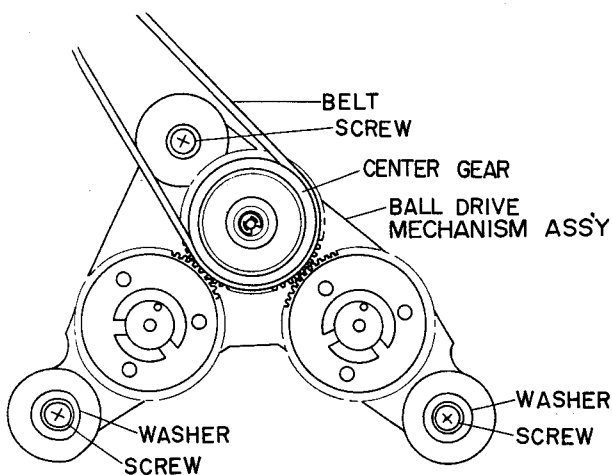

Fig. 6.4. Ball Drive Mechanism Ass'y Replacement
- (3) Referring to Fig. 6.4, remove the belt driven by the reel motor from the groove of the center gear. And remove three sets of screws and washers which fix the ball drive assembly to chassis. Detouch the brake assembly that holds the drum of ball drive assembly, and then remove the ball drive assembly.
- (4) Replace with a new ball drive assembly.
- (5) Mount the belt driven by the reel motor on the groove of center gear. Check to insure that the belt is clean and placed in a correct position.
- (6) Use care to prevent the shut-off belt from interfering with cassette holder assembly. Be sure that the belt is clean, and is placed in a correct position. Make sure not to stick grease on the counter belt. In case grease is stuck on the counter belt, clean it off with an alcohol-dipped cloth.
- (7) Without loading a cassette tape, check to insure that the reel hub on supply side and that on take-up side are stopped, respectively in F.F. mode and rewind mode (In case either one or both of them is not stationary, replacement of ball drive assembly will be necessary).
- (8) Loading the torque gauge in the cassette well assembly, check that F.F. and rewind torque are in a range of 50 to 55 g-cm. After mounting the flywheel assembly, capstan belt and flywheel holder, check to see that take-up torque is in a range of 40 ± 5 g-cm. In case these values are not achieved, adjustment should be made following the "6.1.2. Adjustment."